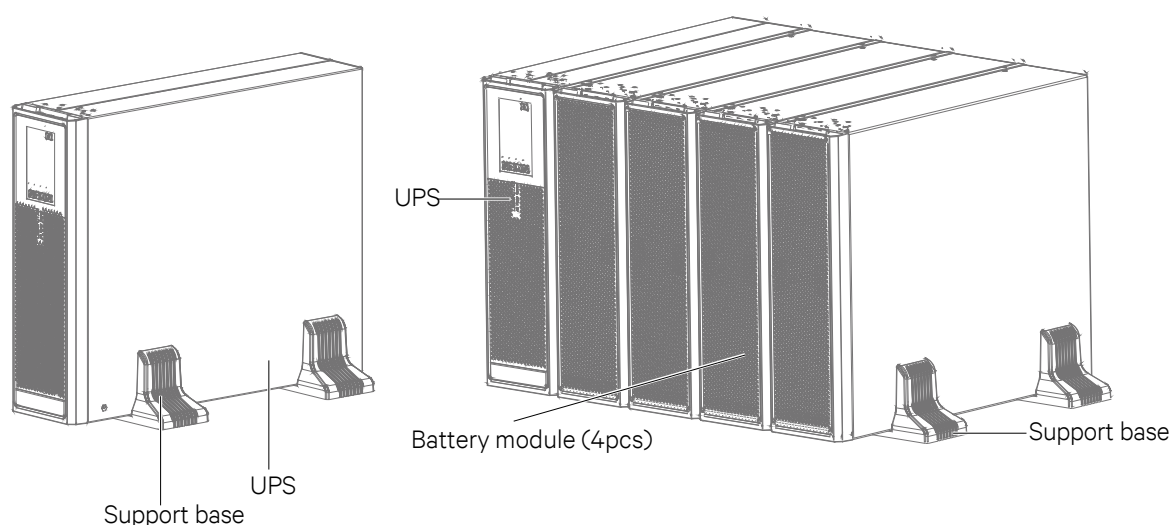

Figure 2-8 UPS and battery module Installation complete
3. Place the UPS on the support bases and support base extensions, as shown in Figure 2-8